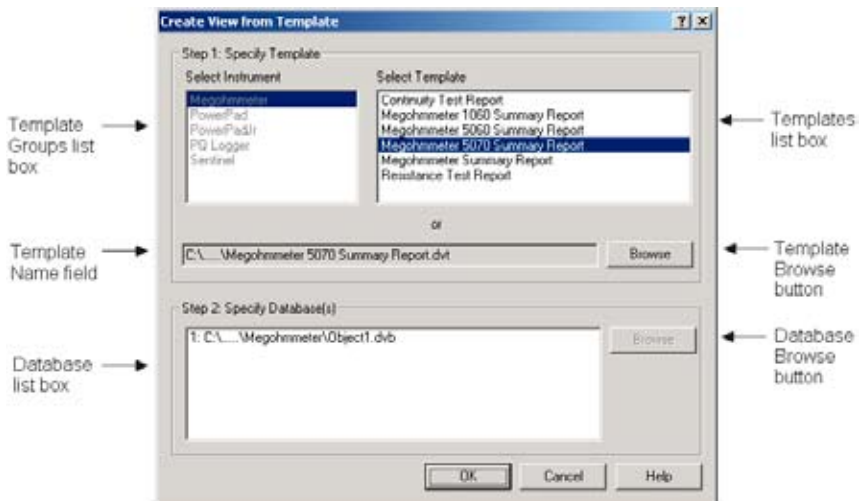

Figure 7-15
7. You will then be asked if you want to open the database just downloaded. Click the **Yes** button, which will open a dialog box labeled Create View from Template, similar to that shown in Figure 7-15.